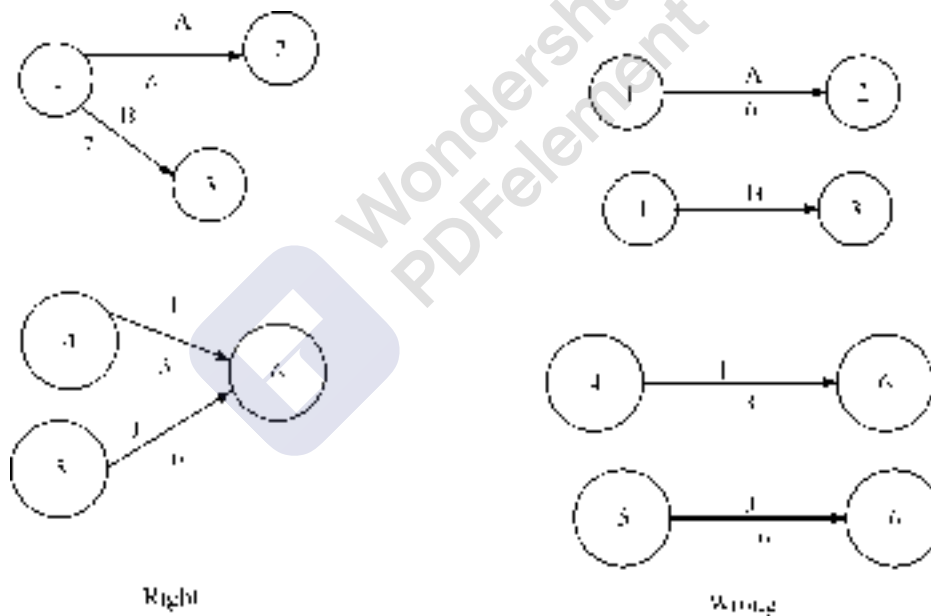

Figure 15.3. Writing the network.
- (a) There must be only one beginning and one end for the network, as shown in figure 15.3.